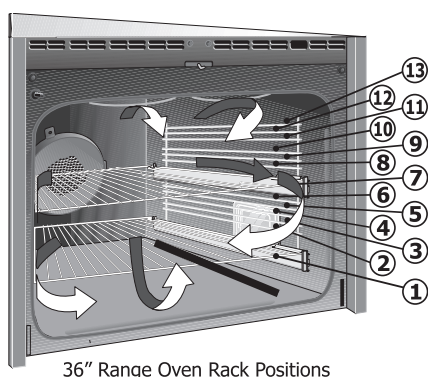
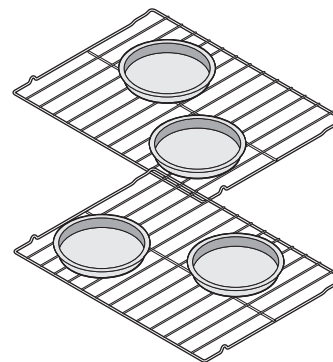

Figure 19: Rack positions and convection air flow
Figure 20: Pan spacing
Convection bake uses a fan to circulate the oven heat throughout the oven cavity (Figure 19). The improved heat distribution allows for even cooking. Cooking with multiple racks may slightly increase cook times for some food types, but the overall result will be time saved. The oven temperature should be reduced 25°F when using a standard recipe.
- Use convection bake mode for best results when baking two racks of cookies and use rack positions 3 and 11 (Figure 19). Position cookware as shown in Figure 20 when using multiple pans for convection baking.